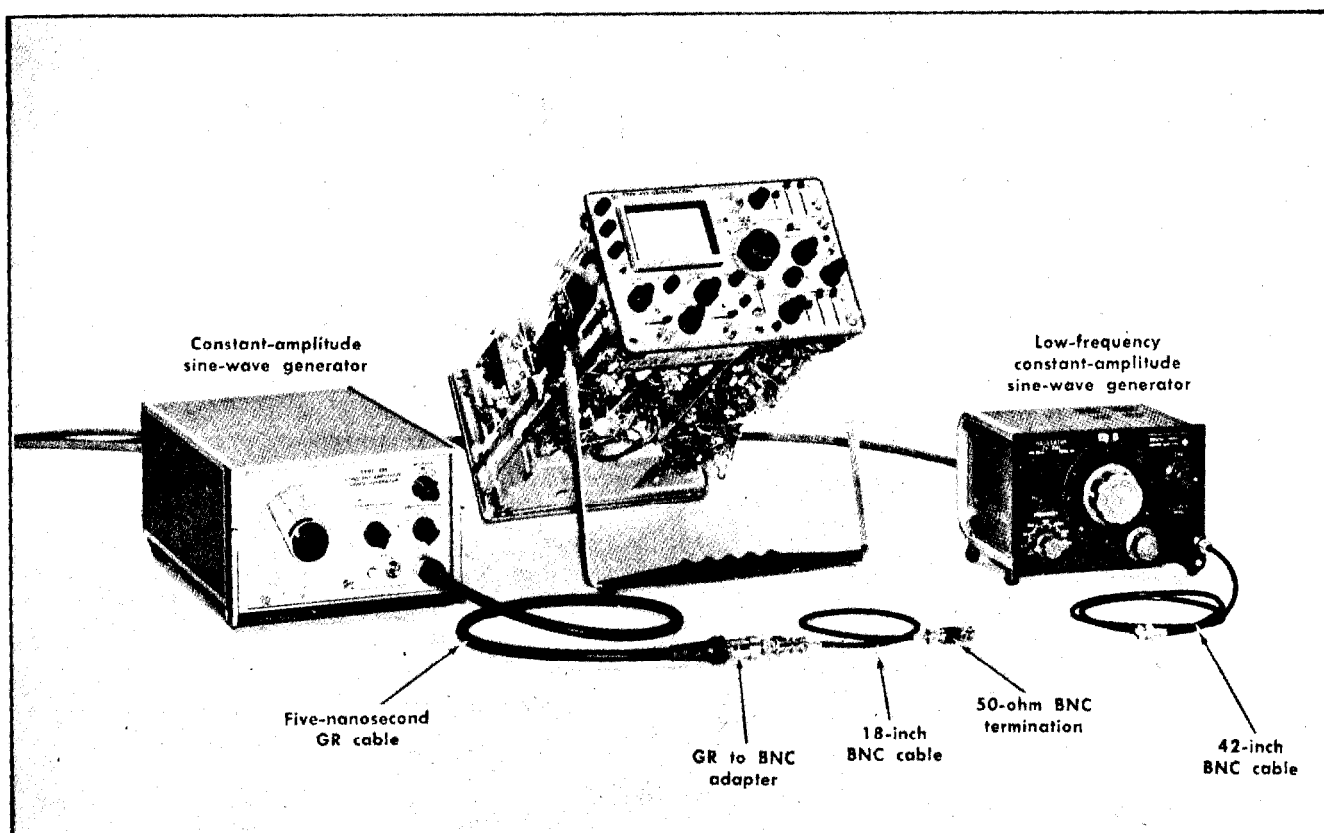

Fig. 6-28. Initial test equipment setup for steps 30 through 40.
a. Test equipment setup is shown in Fig. 6-28.